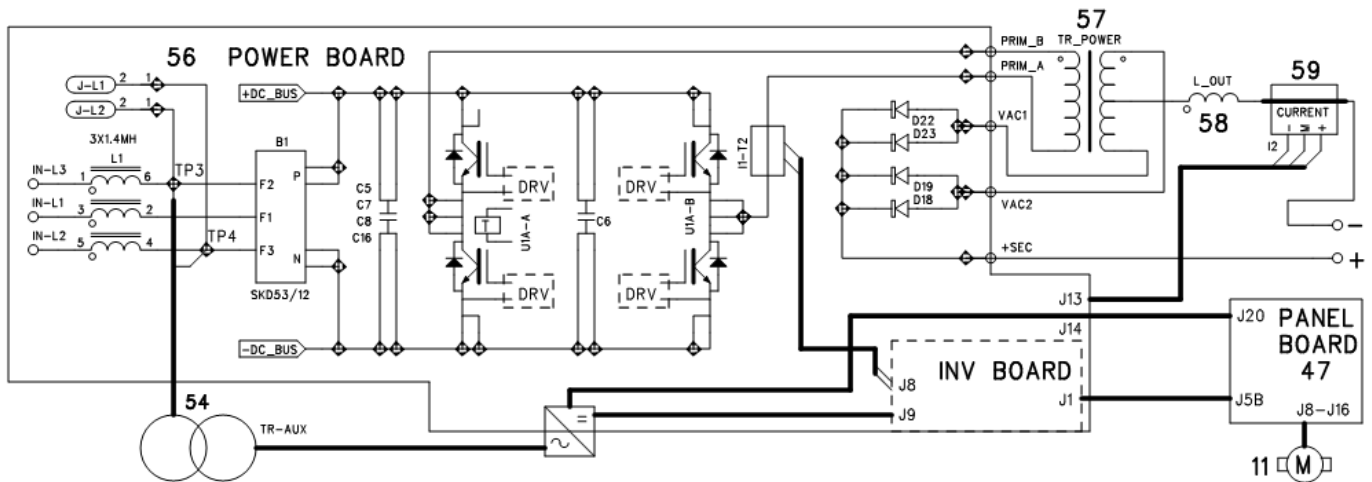

Fig. 2.3.1 (art. 386/388)
More precisely in the power board (56) they can be identified (Fig. 2.3.1):
- the igt inverter, that generates the square wave alternated voltage for the “TR_POWER (57)” power transformer;
- the TA, T2, for the relief of the power transformer (57) primary winding current;
- the rectifier bridge of the power transformer (57) secondary current.